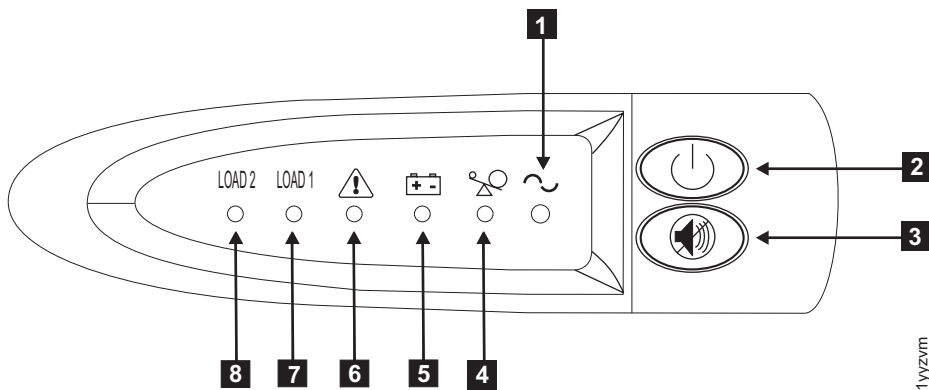

Figure 14. Power switch and indicators of the uninterruptible power supply 5115
7. Press and hold the on/off button **2** until you hear the UPS 5115 beep (approximately two seconds). The front panel indicators cycle through a startup sequence while the UPS 5115 conducts a self-test. See Figure 14.